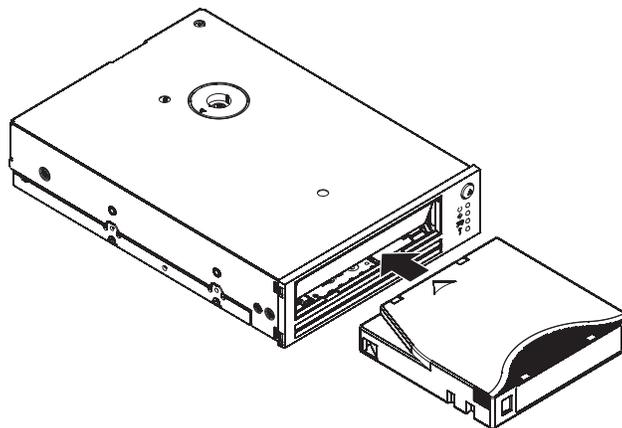

Figure 4. Inserting a cartridge into the drive
4. Grasp the cartridge so that the write-protect switch faces you (see Figure 4).